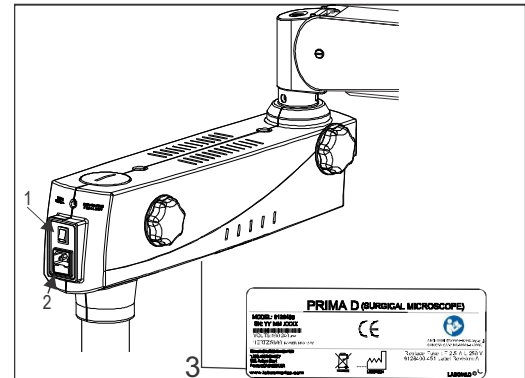

Fig. 7
Connect the power cable to the AC inlet socket (2) provided on the back of the swivel arm as shown in the fig 7.
Note: Power supply is designed with universal input 100V-240V AC, 50/60Hz. To plug in follow instruction on electrical label provided at bottom of the arm as shown (3) here in Fig. 7.
9.1 ON/OFF switch (Shown as 1 in fig. 7 above)